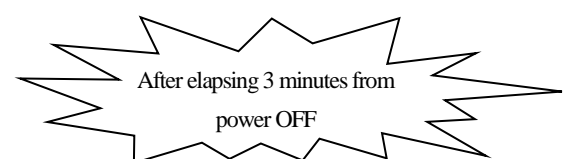

Fig.1 Parts arrangement view of inverter pwb
(Be sure to measure voltage (DC) on both capacitor terminals located in control back, and check that the voltage is discharged sufficiently. (Refer to Fig.1))